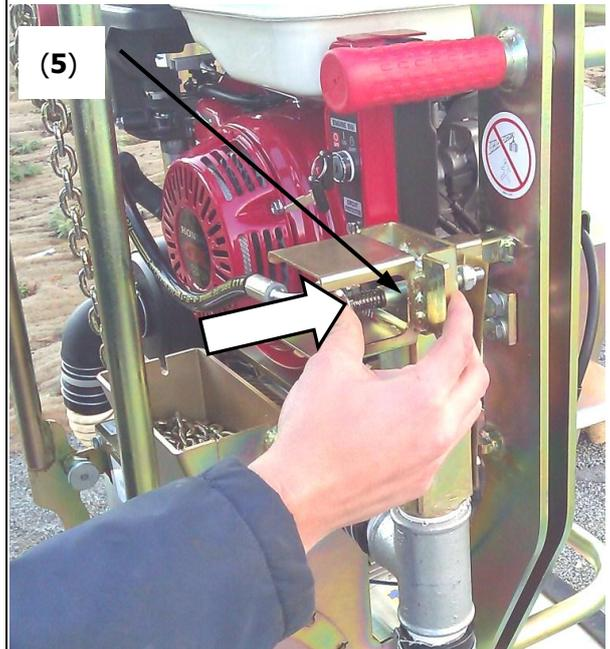

Fig. 6
- To release the load (stone slab), press the release button (5). (→ Fig. 6).